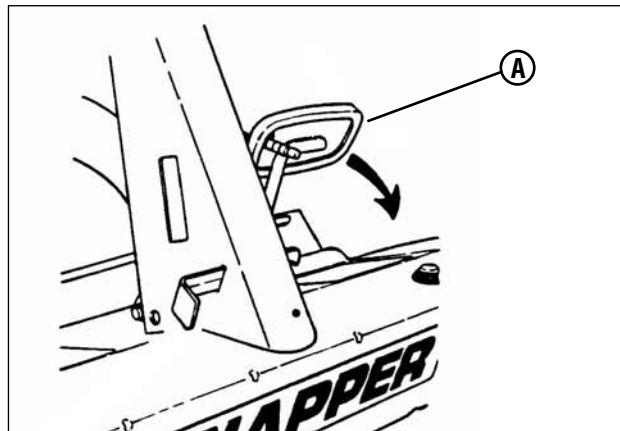

Figure 5: Engaging the clutch/brake pedal
3. Press the Clutch/Brake Pedal (**A**, Figure 5) all the way down and hold while starting the engine.